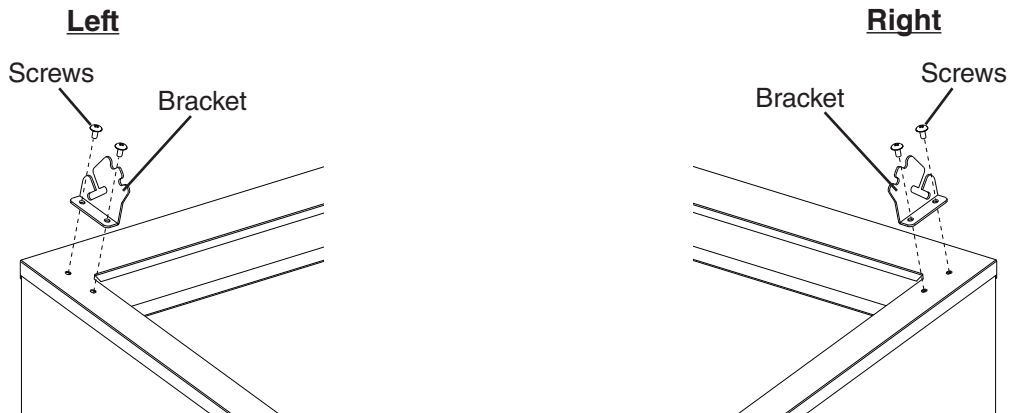

Fig. 3
- 1) Install the rail cover brackets in the orientation shown using the 5×10 stainless steel machine screws provided. See Fig. 3.